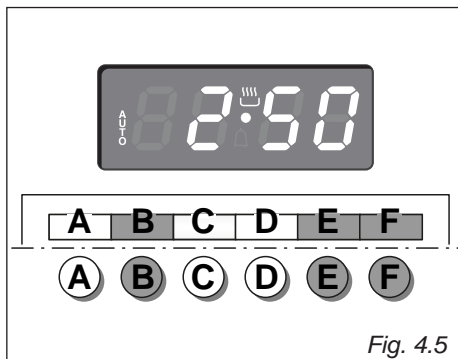

Fig. 4.5
1. Set the length of the cooking period by pushing the “B” button and the “F” button to increase or “E” to decrease if you have passed the desired time (fig. 4.5). The **AUTO** and the  symbol will illuminate.